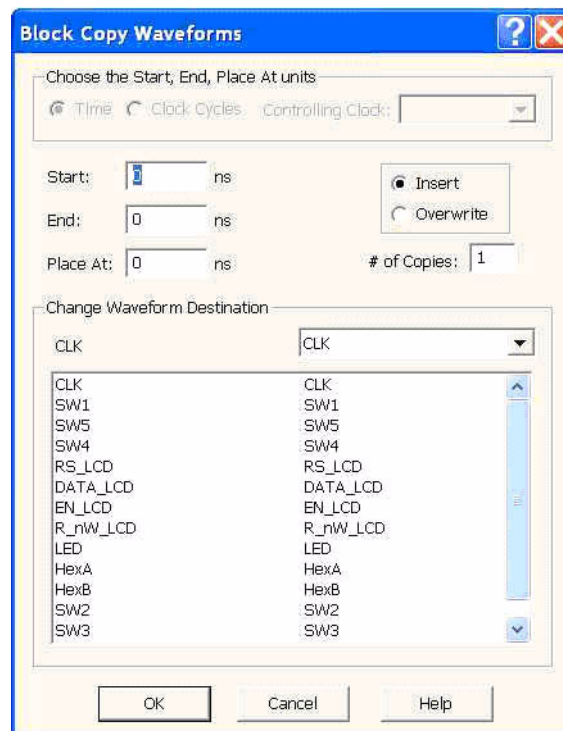

Figure 7-14. Block Copy Waveforms Dialog Box
2. Select the **Edit > Block Copy Waveforms** menu option (choose to select all waveforms, if necessary). This opens the Block Copy Waveforms dialog box (Figure 7-14 on page 43) with the selected signals displayed in the Change Waveform Destination list box.